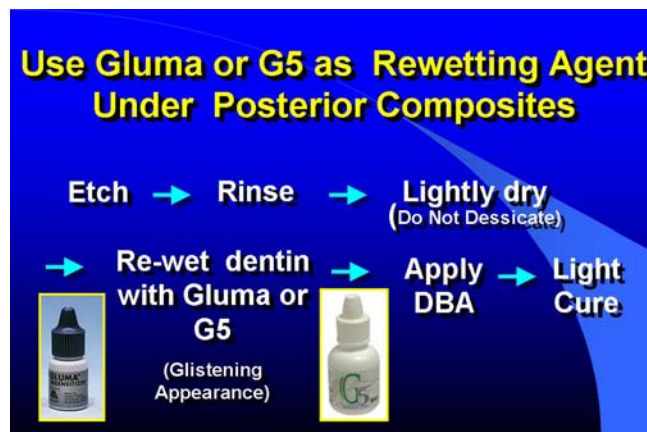

Figure 2
* Probably the best way to desensitize the tooth when using an “etch and rinse” (total-etch) adhesive system is to use Gluma Desensitizer, or one of the new Gluma-like materials as a rewetting agent. As seen in Fig. 2 below, the Gluma is placed after acid etching, but before placing the resin primer. The Gluma disinfects, seals the dentinal tubules, and also enhances bond strengths, because it is a very effective cross-linking agent. It also has been reported to reduce MMP activity (Sabatini et al. 2014 *Dent Mater.* 30:752-758). Gluma Desensitizer is particularly effective as a rewetting agent, and results in profound concomitant desensitization. G5 by Clinician's Choice, Calmit by Caulk or Microprime G from Danville are excellent, inexpensive Gluma substitutes for re-wetting that also afford great desensitization.